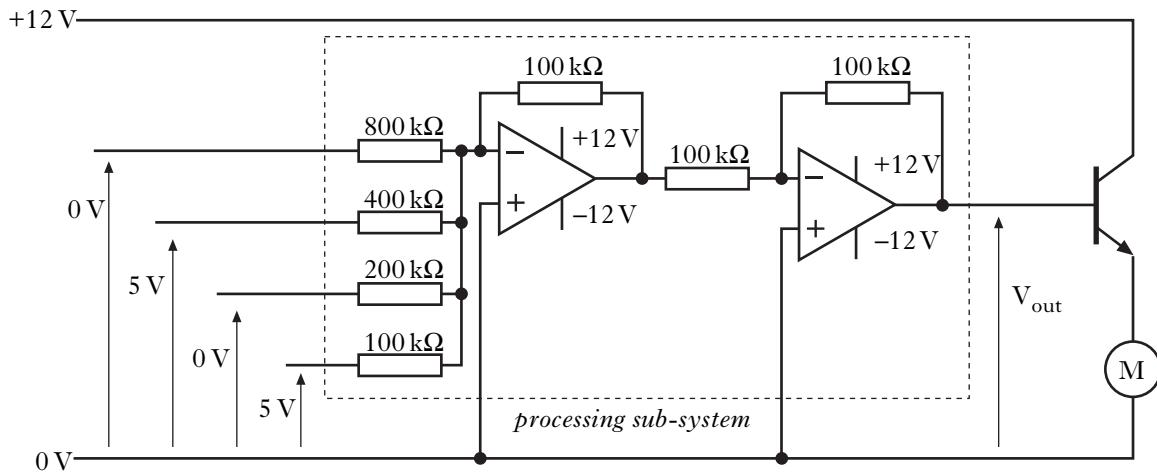

Figure Q8(a)
8. The circuit in Figure Q8(a) is used to control the speed of a motor, by varying the output voltage. It includes a processing sub-system, based on two op-amps, which processes four signals from a microcontroller.